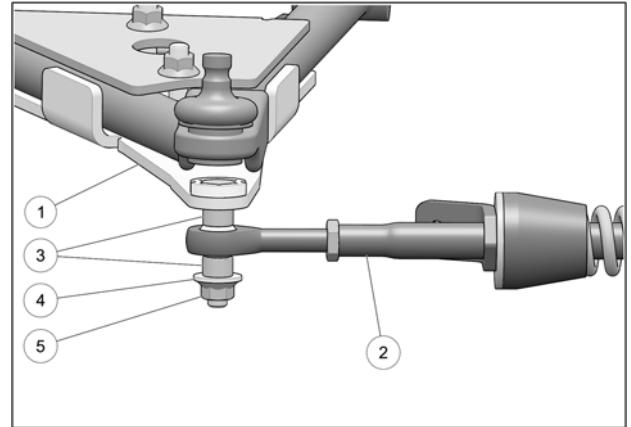

Fig. 15
8. Attach the stabilizing rod (2) to the anchor bracket (1), using the two spacer bushings (3), flat washer (4) and nut (5). Torque to 70 N•m [52 lb•ft]. Refer to Fig. 15